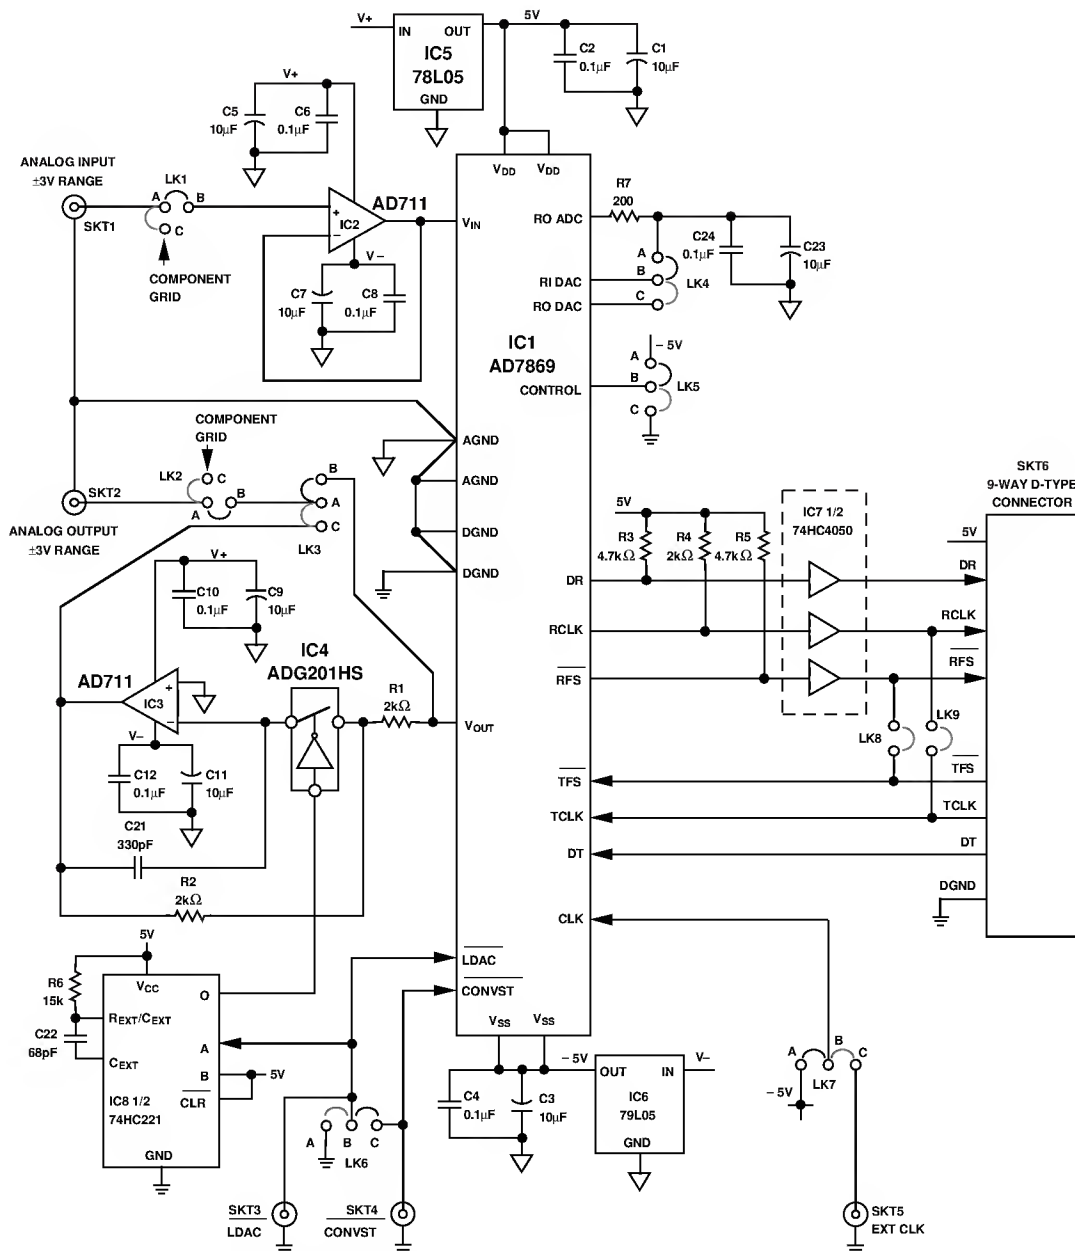
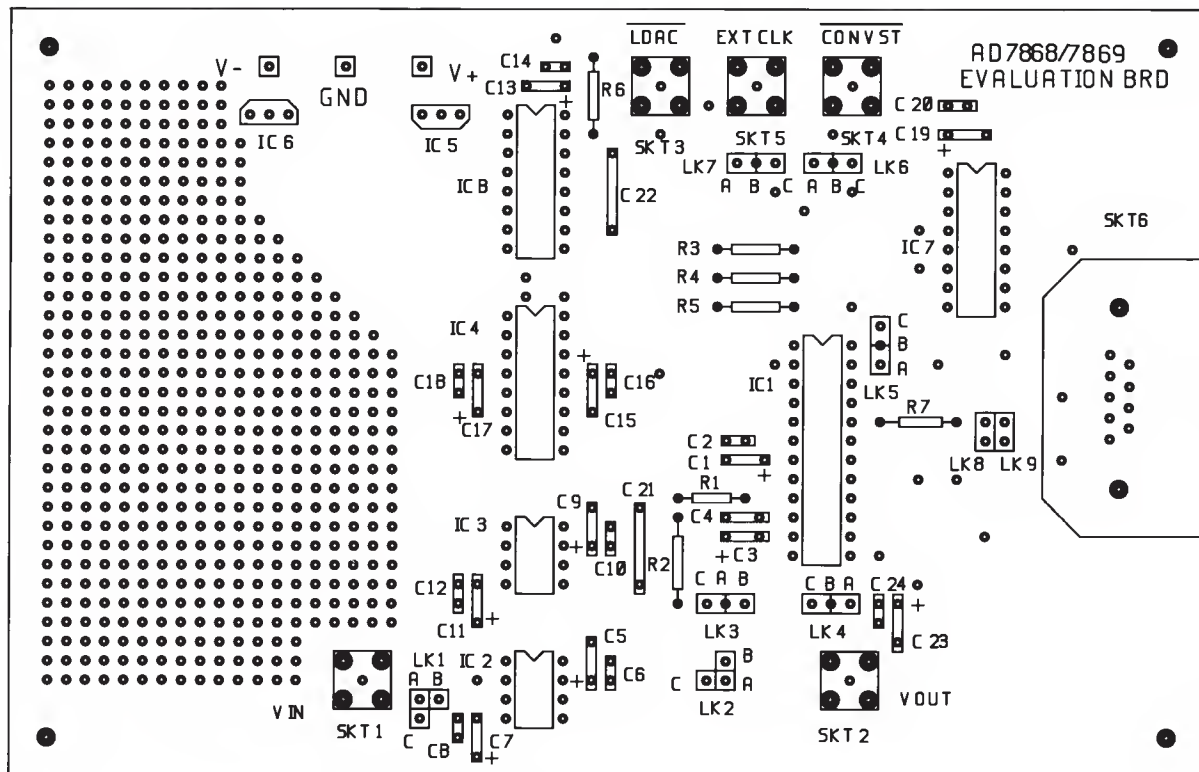

Figure 19. Input/Output Circuit Based on the AD7869
Figure 21. Silkscreen for the Circuit Diagram of Figure 19
Figure 19 shows an analog I/O board based on the AD 7869. The corresponding printed circuit (PC) board layout and silkscreen are shown in Figures 21 to 23.
The PC board requires two analog power supplies and one 5 V digital supply. Connections to the analog supply are made directly to the PC board as shown on the silkscreen in Figure 21. The connections are labeled V+ and V-, and the range for both of these supplies is 12 V to 15 V. Connections to the 5 V digital supply are made through the D-type connector SK T 6. The ± 5 V analog supply required by the AD 7869 is generated from two voltage regulators on the V+ and V- supplies.